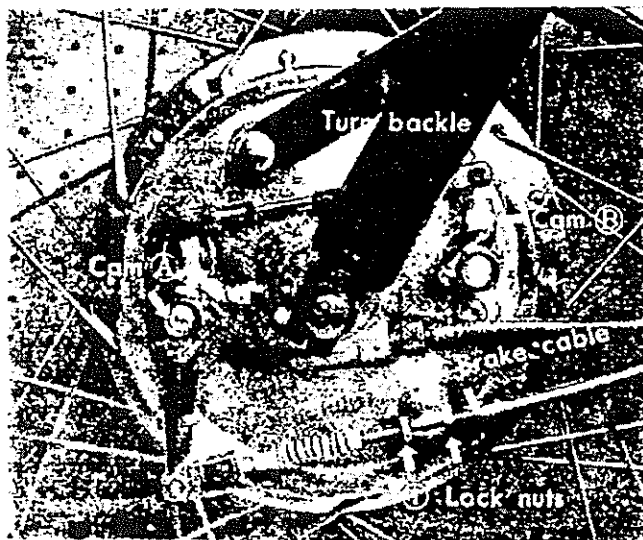

Fig. 18
c) Because of the double cams on the drum, the ① and ② of cam arms must be set parallel with ① lock nuts and turn-buckle at all times, to prevent uneven brake action. (Fig. 18)